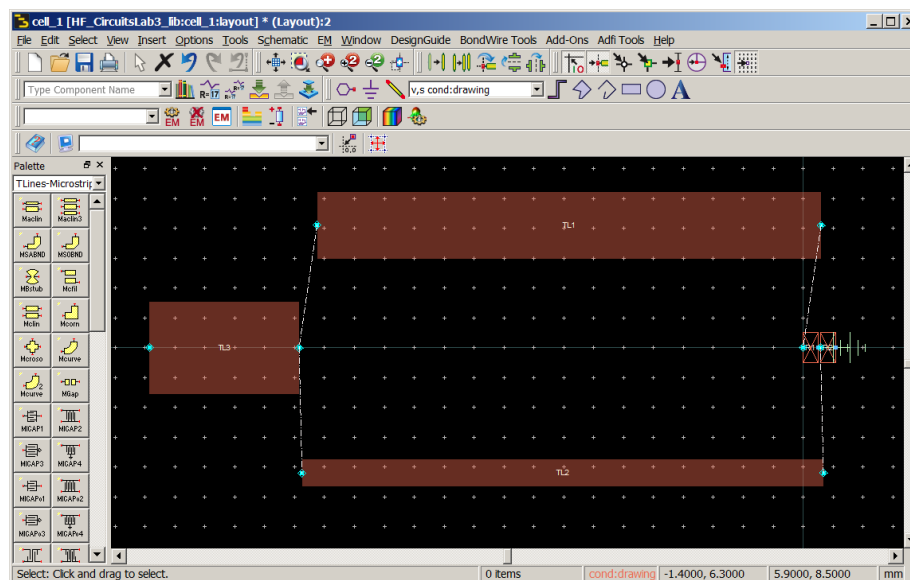

Figure 6 *Momentum layout of the matching circuit.*
16. The first step is to generate a Momentum layout of your schematic by clicking on Layout → Generate/Update Layout. Accept any dialogue boxes that may appear. A new Momentum window will be generated that shows the artwork associated with your design, as illustrated in Fig. 6.
17. You might notice that the generated layout structure in Fig. 6 looks a little misplaced. This is because improper *physical* connections were included between TL1, TL2, and TL3. This can be corrected by including microstrip T-junction (**MTEE**) and two transmission line corner bends (**MCORN**) as shown in Fig. 6 for the circuit schematic.